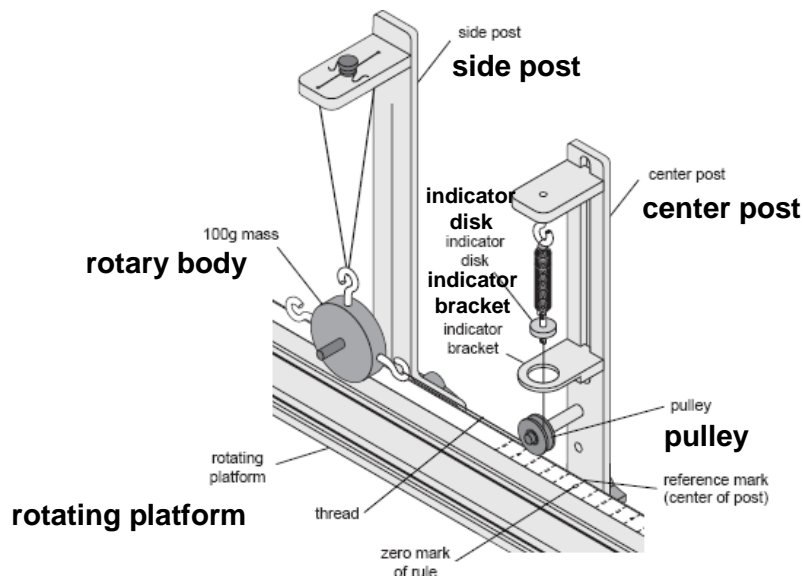

Figure 3 Circular motion and Centripetal Force Setup
1. ◦ As shown in figure 3. Mount the center post in the T-slot on the side of the track that has the rule. Align the line on the center post with the zero mark on the rule and tighten the thumb screw to secure it in place. Then mount the side post on the same side of the track.